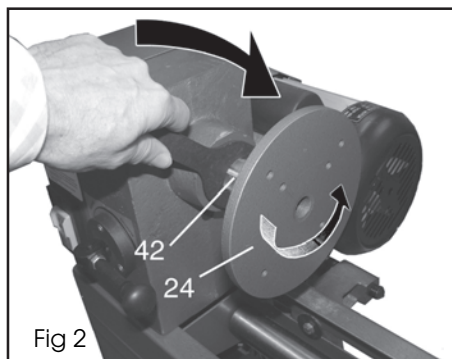

Fig 2
1. If faceplate turning is required, screw the faceplate (24) onto the headstock spindle (42) while using the open wrench provided to prevent the spindle from turning. Tighten the faceplate as shown in Fig 2.